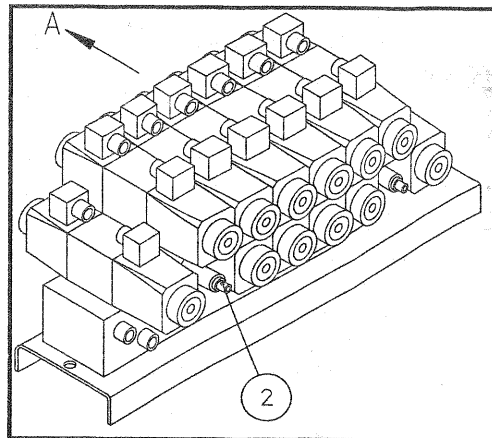

Figure 13-1. Lower valve group
- The adjusting screw for the steering speed is located in the lower chassis valve group, see figure 13-1. The arrow in figure A points towards the platform.